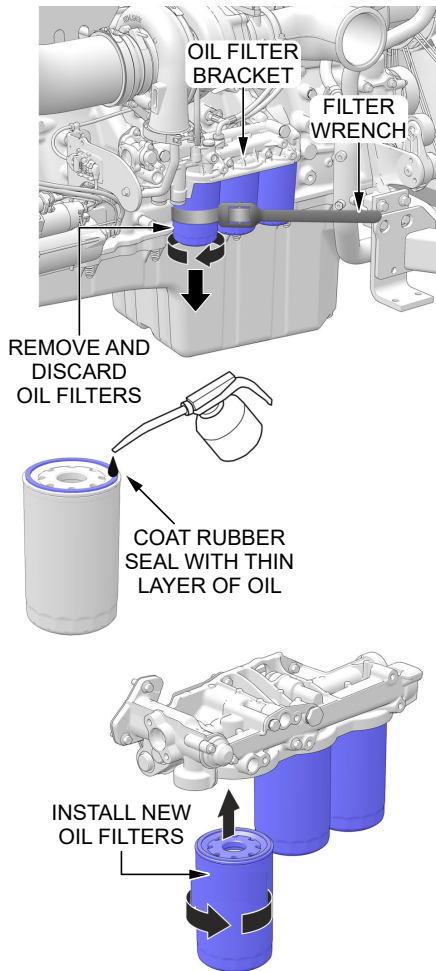

Figure 86. Oil Filter Replacement
1. Clean the area around the **oil filter bracket** (Figure 86).
2. Using a **filter wrench**, remove all engine oil filters (Figure 86).
4. Coat the rubber seal (gasket) surface of the new oil filters with clean 15W-40 engine oil (Figure 86).